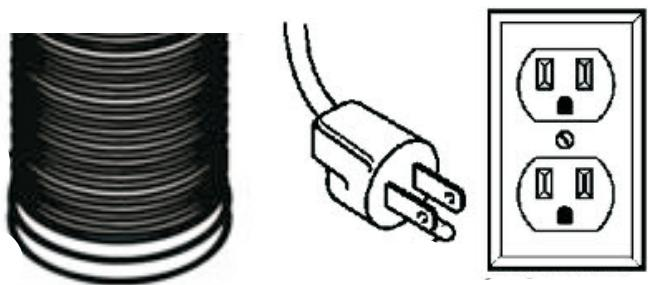

fig. 4
**Step 5:** Make your electrical and ducting connections. Use 6" rigid duct wherever possible. Try and minimize the use of elbows. More elbows and longer runs create higher static pressure. The hood comes with a grounded three prong plug that can either be direct wired or plugged into a 20 amp. circuit. fig. 4